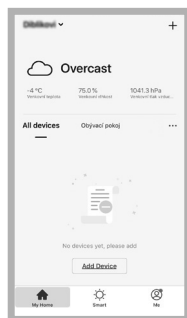

Fig. 6
3. Then press + or "Add device" (Fig. 6) in the application to add a new device.